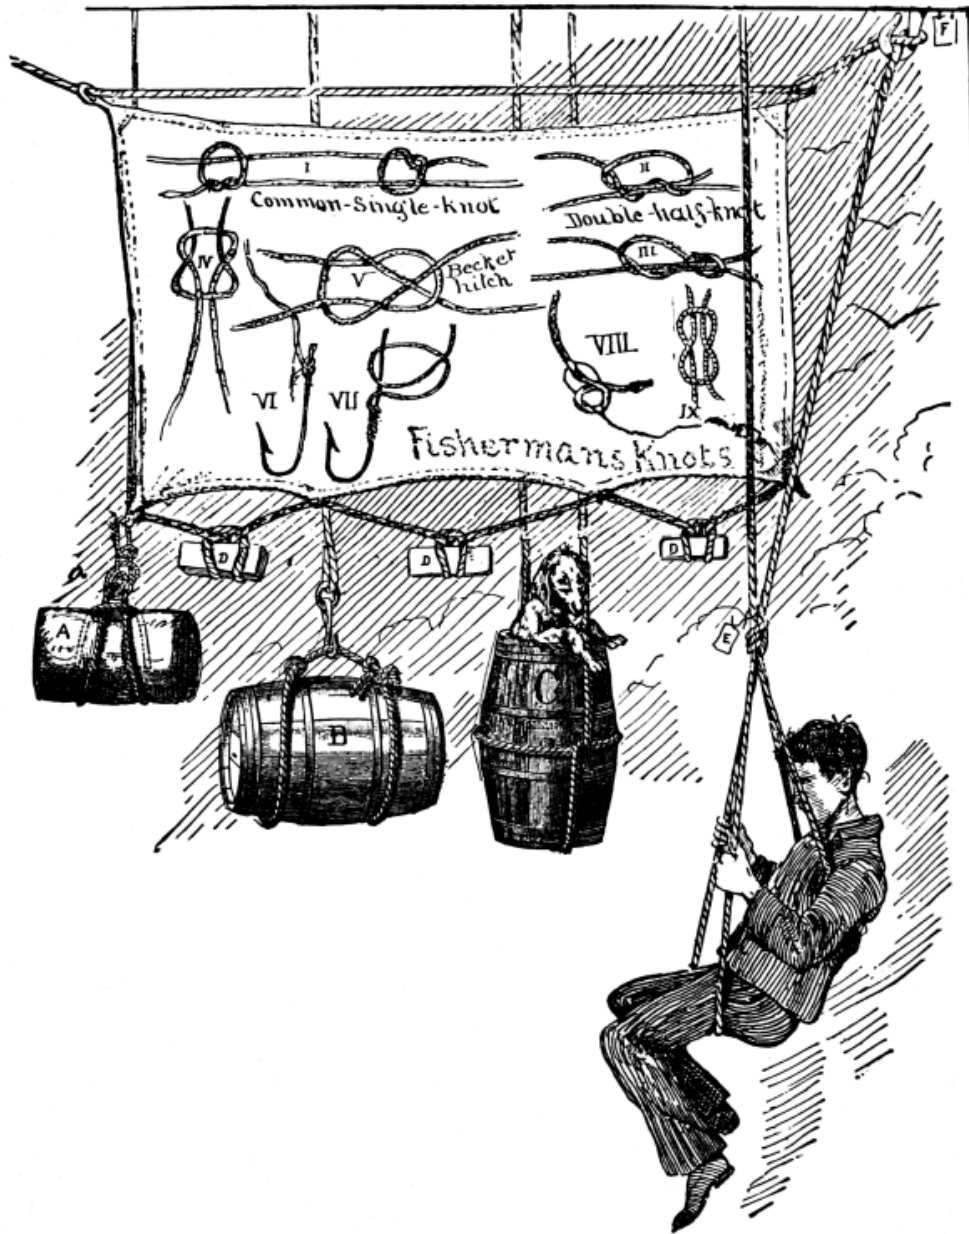

Fig. 185.—Some useful knots.
The "English" or "common single fisherman's knot" (Fig. 185, I) is neat and strong enough for any ordinary strain. The diagram shows the knots before being tightened and drawn together.
When exceptional strength is required it can be obtained by joining the lines in the ordinary single fisherman's knot (Fig. 185, I) and pulling each of the half knots as tight as possible, then drawing them within an eighth of an inch of each other and wrapping between with fine gut that has been previously softened in water, or with light-colored silk.
The "fisherman's double half knot," Fig. 185 (II and III). After the gut has been passed around the main line and through itself, it is passed around the line once more and through the same loop again and drawn close.
Fig. 185 (IV, V, and IX). Here are three methods of joining the ends of two lines together; the diagrams explain them much better than words can. Take a piece of string, try each one, and test their relative strength.
Fig. 185 (VI). It often happens, while fishing, that a hook is caught in a snag or by some other means lost. The diagram shows the most expeditious manner of attaching another
hook by what is known as the "sinker hitch," described further on (Fig. 185, D, D, D, and Fig. 186, XIV, XV, and XVI).
Fig. 185, VII is another and more secure method of attaching a hook by knitting the line on with a succession of half-hitches.
Select a lot of long hair of the color desired; make it into a switch about an eighth of an inch thick by tying one end in a simple knot. Pick out a good, long hair and tie it around the switch close to the knotted end; then take the free end of the single hair in your right hand and pass it under the switch on one side, thus forming a loop through which the end of the hair must pass after it is brought up and over from the other side of the switch. Draw the knot tight by pulling the free end of the hair as shown by Fig. 185, VII. Every time this operation is repeated a wrap and a knot is produced. The knots follow each other in a spiral around the switch, giving it a very pretty, ornamented appearance. When one hair is used up select another and commence knitting with it as you did with the first, being careful to cover and conceal the short end of the first hair, and to make the knots on the second commence where the former stop. A guard made of white horse-hair looks as if it might be composed of spun glass, and produces a very odd and pretty effect. A black one is very genteel in appearance. These ornaments are much prized by cowboys, and I have seen bridles for horses made of braided horsehair.
Fig. 185, VIII shows a simple and expeditious manner of attaching a trolling-hook to a fish-line.
Fig. 185, F is a hitch used on shipboard, or wherever lines and cables are used. It is called the Blackwall hitch.
Fig. 185, E is a fire-escape made of a double bow-line knot, useful as a sling for hoisting persons up or letting them down from any high place; the window of a burning building, for instance. Fig. 186, XVIII, XIX, and XX show how this knot is made. It is described on page 77.
Fig. 185, A is a "bale hitch," made of a loop of rope. To make it, take a piece of rope that has its two ends joined; lay the rope down and place the bale on it; bring the loop opposite you up, on that side of the bale, and the loop in front up, on the side of the bale next to you; thrust the latter loop under and through the first and attach the hoisting rope. The heavier the object to be lifted, the tighter the hitch becomes. An excellent substitute for a shawl-strap can be made of a cord by using the bale hitch, the loop at the top being a first-rate handle.
Fig. 185, B is called a cask sling, and C (Fig. 185) is called a butt sling. The manner of making these last two and their uses may be seen by referring to the illustration. It will be noticed that a line is attached to the bale hitch in a peculiar manner (*a*, Fig. 185). This is called the "anchor bend." If while aboard a sail-boat you have occasion to throw a bucket over for water, you will find the anchor bend a very convenient and safe way to attach a line to the bucket handle, but unless you are an expert you will need an anchor hitched to your body or you will follow the bucket.
Lines that have both ends made fast may have weights attached to them by means of the sinker hitch (Fig. 185, D, D, D).
The "fire-escape sling" previously mentioned, and illustrated by Fig. 185, E, is made with a double line.
After you have run the end loop up through the turn (Fig. 186, XIX), bend it downward and over the bottom loop and turn, then up again until it is in the position shown in Fig. 186, XX; pull it downward until the knot is tightened, as in Fig. 185, E, and it makes a safe sling in which to lower a person from any height. The longer loop serves for a seat, and the shorter one, coming under the arms, makes a rest for the back.